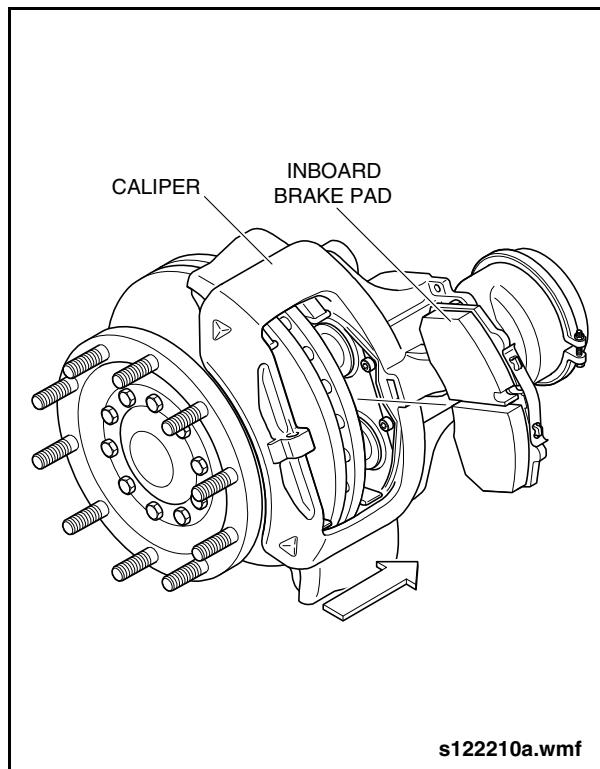

Fig. 1-54: Brake Pad Installation
1. Push the brake caliper inward against the stop and insert the inboard brake pad. See "Fig. 1-54: Brake Pad Installation" on page 62.